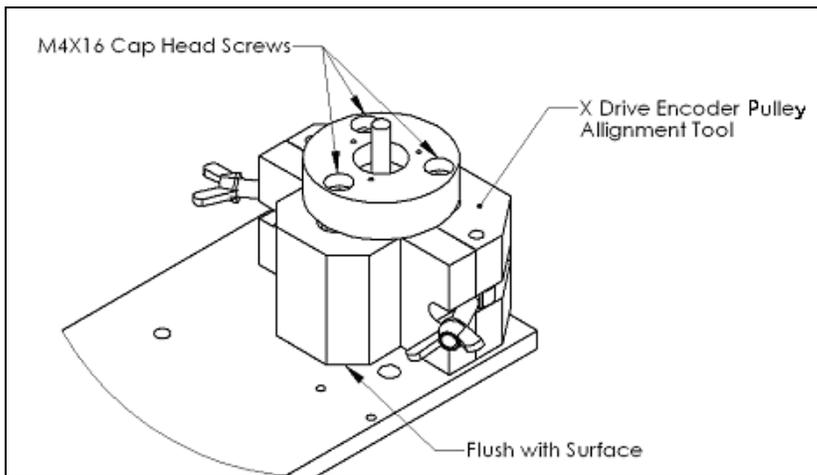

Figure 7-60 Positioning the Alignment Fixture Around the Pulley Assembly
- 2 Place the X Drive Encoder Pulley Alignment Tool (DSXFIX035) around the Idler Pulley assembly as shown in Figure 7-60. Hold the bottom of the tool flush with the X Main Plate, then tighten the wing nuts of the fixture.